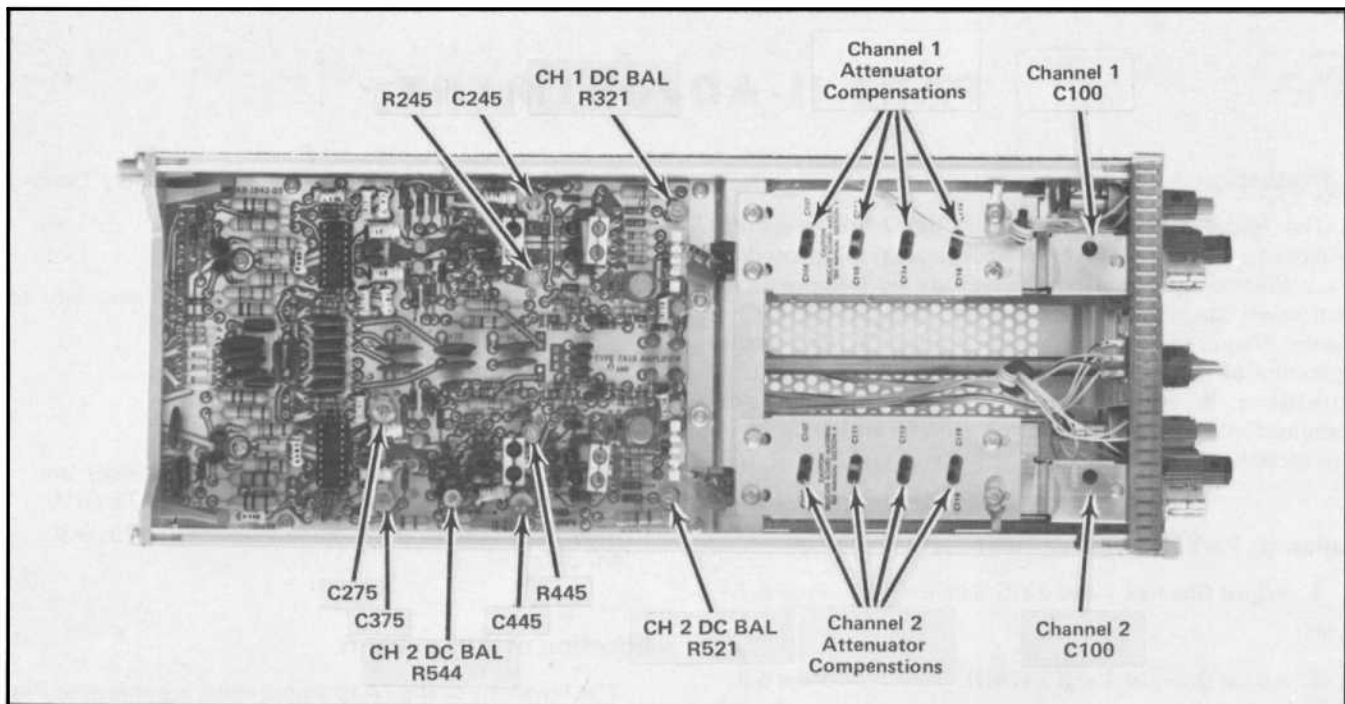

Fig. 5-1. Locations of adjustments used in this procedure. (7A18 shown.)
The locations of the 7A18 adjustments are shown in Fig. 5-1.
ADJUST--DC BAL (see number 5, Fig. 5-1) for no trace shift while switching CH 2 POLARITY switch from +UP to INVERT.
*k*. ADJUST—CH 2 VARIABLE DC BAL (R544, see number 9, Fig. 5-1) for minimum trace shift as the CH 2 VARIABLE control is rotated from fully counterclockwise to fully clockwise.